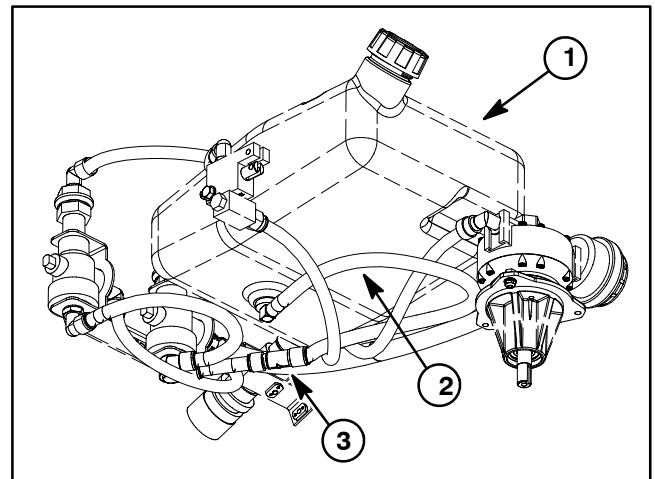
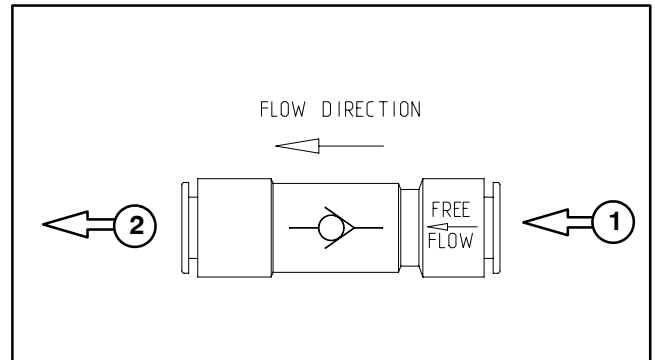

Figure 14
Figure 15
8. If necessary, remove outlet tube and check valve from flush tank (Fig. 14).
1. If removed, attach outlet tube and check valve to flush tank (Fig. 14). Make sure that check valve is installed to allow free flow from flush (water) tank (Fig. 15).